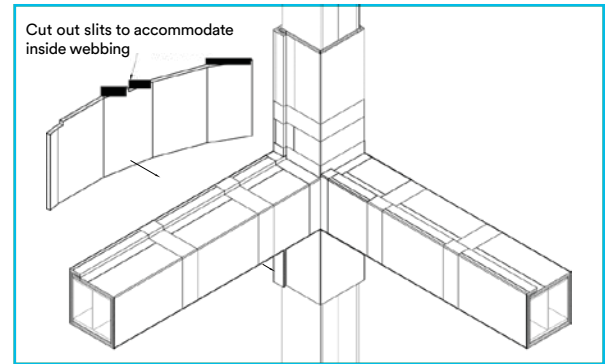

Figure 4
- 4 Tape the E-Mat overlap and perimeter seams with 3M™ Aluminum Foil Tape 437 100 mm (4 in). Centre of tape to be approximately centred over the seam. The inside corner seam should also be taped. Apply pressure on the tape to remove air gaps and secure to E-Mat. Smooth the tape with a hard roller or straight edge applying enough pressure to ensure adequate adhesion of the tape to the E-Mat and to remove any air gaps (*Figure 4*).